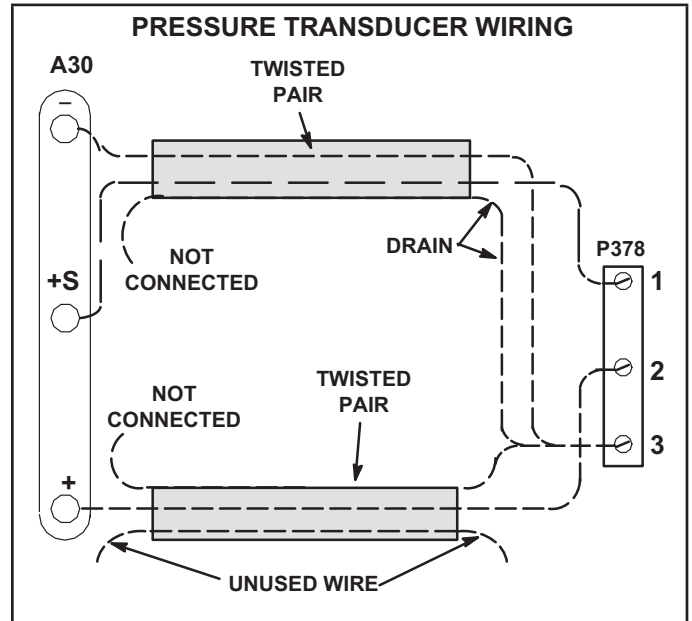

FIGURE 52
- 2 - Two twisted pairs of shielded cable must be used to connect the pressure transducer. See FIGURE 52. J/P378 connector is hanging in the control box.